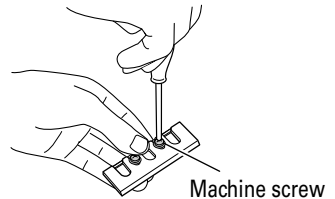

Fig. 13
- (1) Loosen the 2 screws holding on the blade and set plate (A). (Fig. 13)